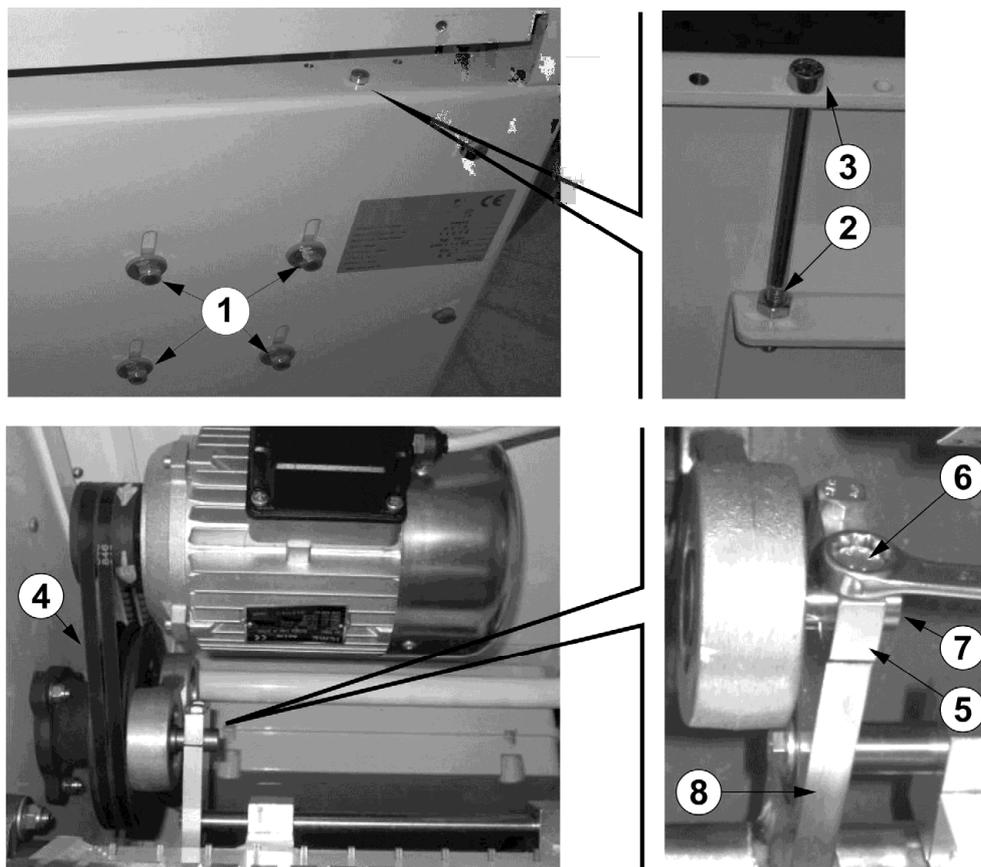

Figure 15
To replace the belts (both must be replaced, never ever only one) proceed as follows, referring to Figure 15:
- replacement of the motor. In this case, always verify that the direction of rotation is correct, as described in chapter 3.3, the drive pulley must be mounted on the motor shaft exactly as shown in Figure 15(see the arrow on the pulley); if the direction of rotation is incorrect, reverse the positions of the two phases inside the electrical plug (this operation must be performed only by an expert electrician).